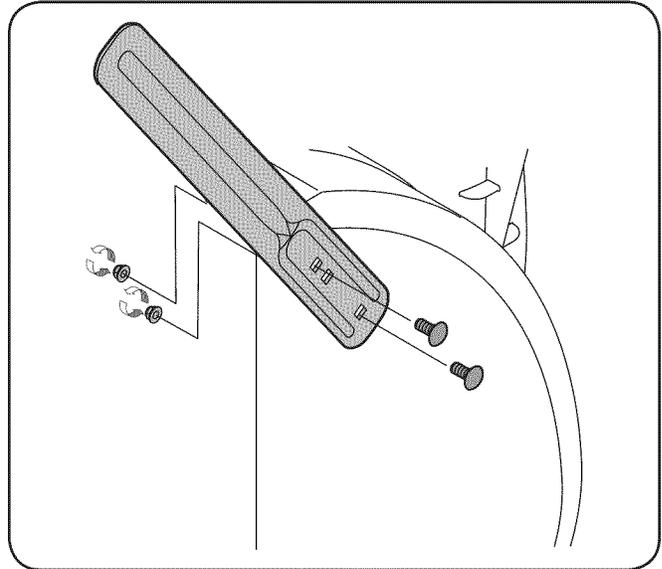

Figure 3-19
2. Turn the drift cutters around and position them as shown in Fig. 3-19 to the outside of the auger housing.